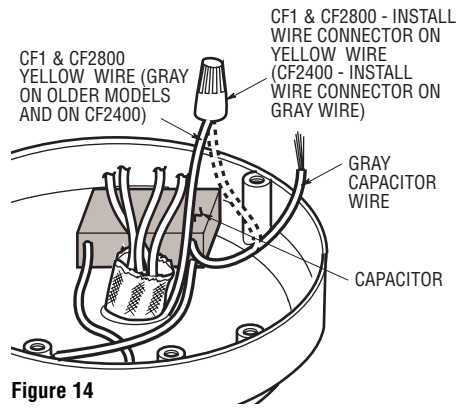

Figure 14
- 5. For Ceiling Fan Models CF1, CF2000 and CF2800 Only. Locate the gray capacitor wire which is connected to the yellow wire (gray wire on older models) coming from the center of the motor. Remove the wire connector and separate the gray and yellow wires. Cap the yellow wire using a wire connector (supplied) (Figure 14).